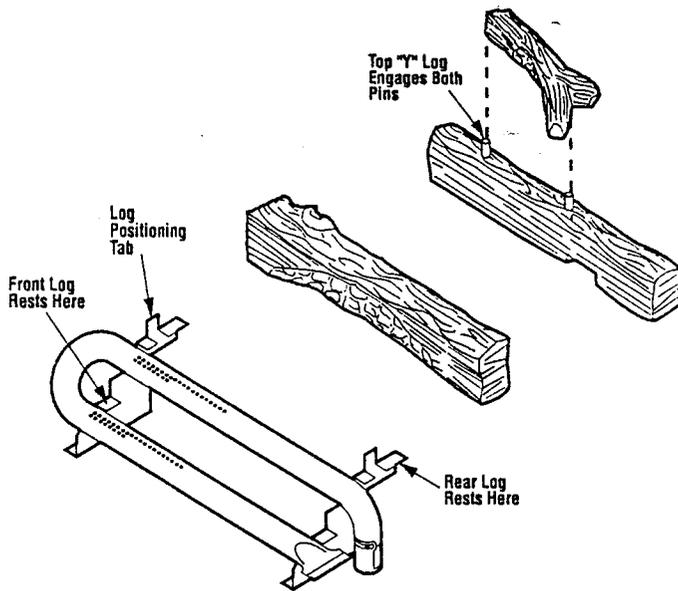

Figure 31
Step 7. Installing Logs – The logs are packaged in bubble wrap and placed within the firebox. Carefully position and center the fiber logs onto the burner with the scalloped and charred log in front and the smaller log in the back. Engage the two (2) holes on the bottom of the rear log onto the position tabs of the burner assembly, refer to Figure 31. There should be a 1/2" (13 mm) gap between the rear log and the back wall of the firebox. Place the smaller fiber "Y" log across the two (2) lower logs in the manner illustrated. The flames should not impinge on the logs.